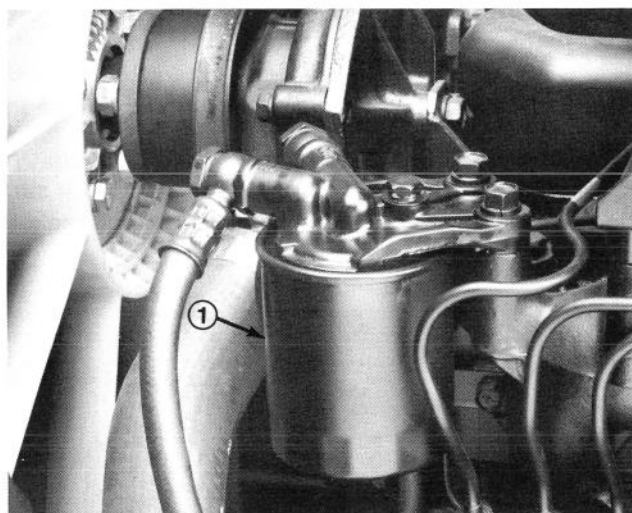

Figure 38
3. Every 1000 hours operation, or yearly, replace the engine fuel filter (Fig. 38) — left front side of engine — and drain water from the fuel tank. Apply clean fuel oil to the filter O-ring. Use hands only to install and tighten filter.
- C. Remove wing nuts securing top of oil cooler to upper radiator support and pivot top of oil cooler away from radiator (Fig. 38).